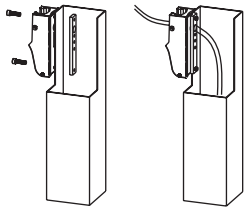

Figure 7
2. Mount the base of the pole mount kit to the pole with M8 × 50mm bolts (included). The base has hole patterns that are compatible with most existing pole drill holes. If necessary, drill new holes in pole. (Figure 7)
3. Feed supply wires from inside the pole through the mounting bracket base. (Figure 7)